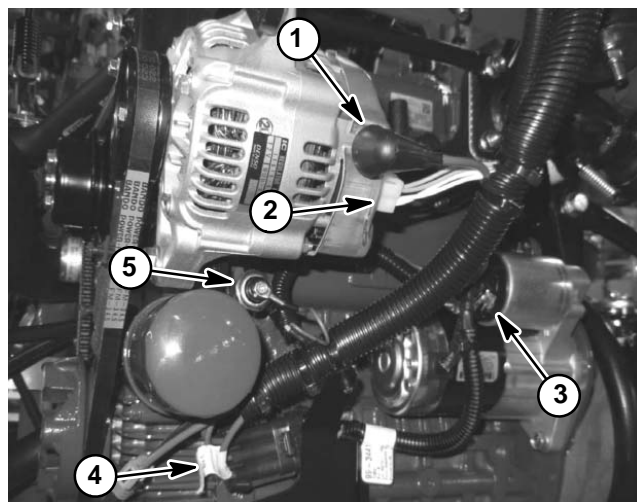

Figure 13
- E. Alternator connector and stud (Fig. 13).
- F. Starter motor solenoid and fusible link harness (Fig. 13).
- G. Oil pressure switch (near oil filter) (Fig. 13).